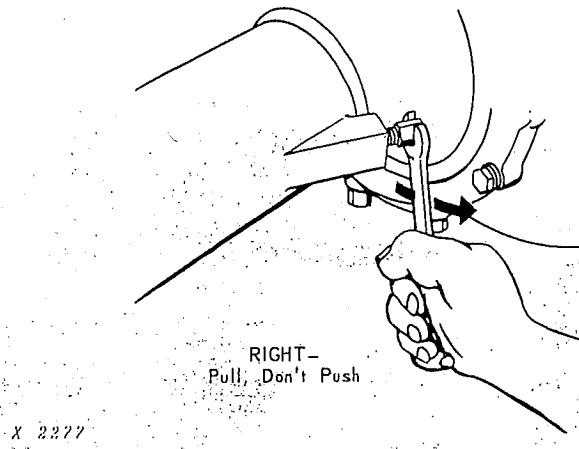

Fig. 23 — Always Pull On A Wrench.— Don't Push
**Always PULL on a wrench — don't PUSH.** Save your knuckles (Fig. 23). If you must push, use the base of your palm and keep your hand open.